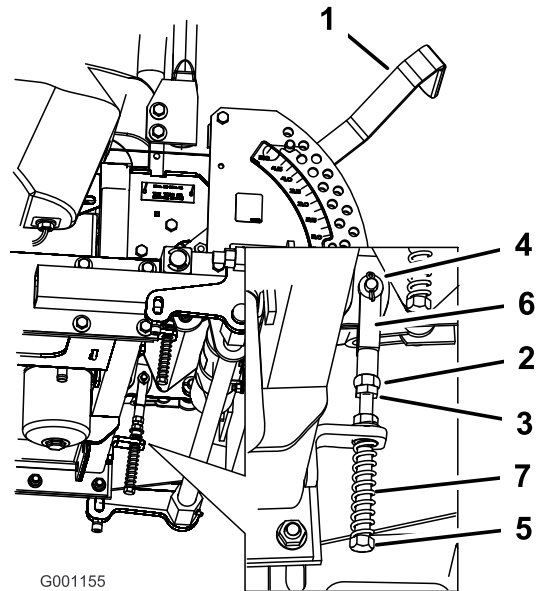

Figure 90
9. Apply slight rearward pressure on the motion-control lever, turn the head of the adjustment bolt in the appropriate direction until the control lever is centered in the NEUTRAL-LOCK position (Figure 90).
10. Tighten the nut and jam nut (Figure 90).
8. If adjustment is needed, loosen the nut and jam nut against the yoke (Figure 90).